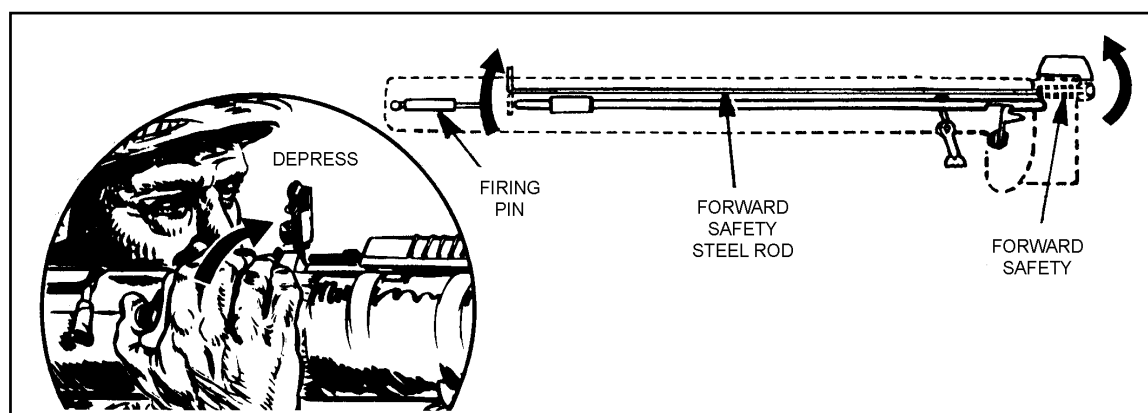

Figure 3-9. Forward safety.
c. **Forward Safety.** This safety is on the front end of the firing mechanism (Figure 3-9) and is connected to a steel rod with a bent end that blocks the firing rod from striking the firing pin. To fire the M136 AT4, hold down the forward safety so the firing rod can strike the percussion cap and ignite the propellant when you push the trigger.